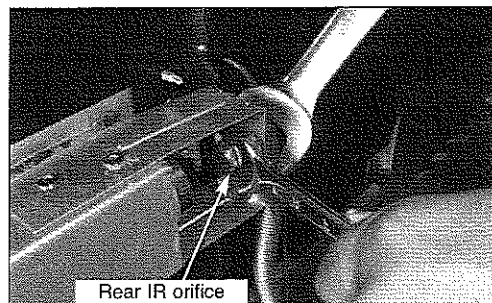

Fig 15
17. Use a wrench to remove the LP orifice on the back IR burner and replaced it with the NG orifice provided in the conversion kit. (See Fig. 15)